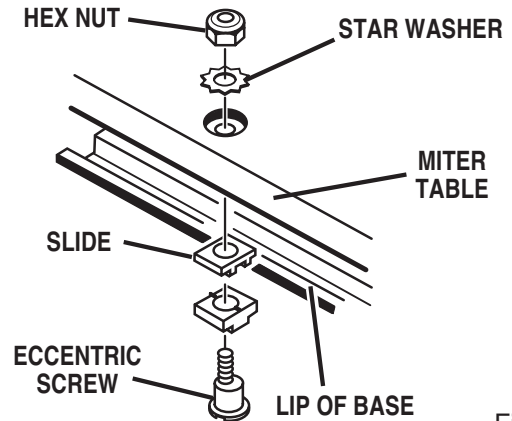
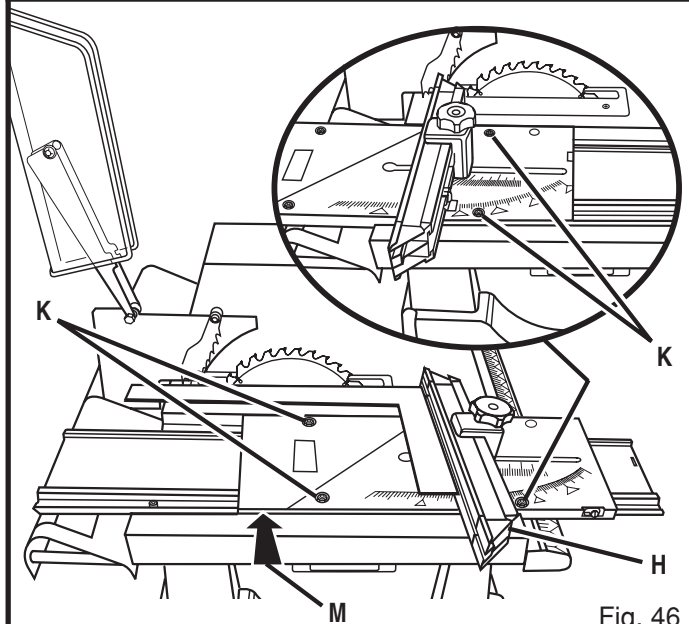

Fig. 45
Fig. 46
- Set the miter fence (H) at 0° as shown in figure 46. Miter indicator (I) should be set precisely on 0° and secured in place with adjusting clamp (F).
- There are four slides located under the sliding miter table. These slides let the miter table move on the base. Three slides are mounted on eccentric screws that can be adjusted by loosening the hex nuts on top of the miter table. See Figure 45.
- Loosen the rear hex nuts (K) on top of sliding miter table for this adjustment procedure.
- Push left rear of miter table snugly against miter base as shown by the arrow (M) in figure 46 and secure.